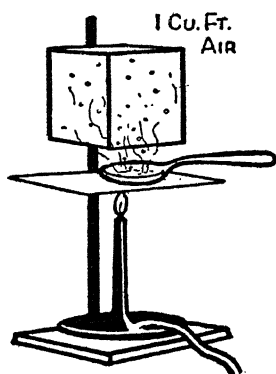

Fig. 5. Using heat to vaporize gasoline and mix it with air.
*Vaporization by Means of Heat.* An easy way in which to vaporize a liquid is to apply heat to it. If we were to apply the heat from a Bunsen burner to one-half teaspoonful of gasoline, as shown in Fig. 5, the gasoline would very quickly be driven off in the form of a heavy vapor. The heat aids it in rising and, if the vessel containing the cubic foot of air were immediately above it, a very good mixture would be secured between the air and the vaporized gasoline. Naturally the greater the heat the more rapid the vaporization.